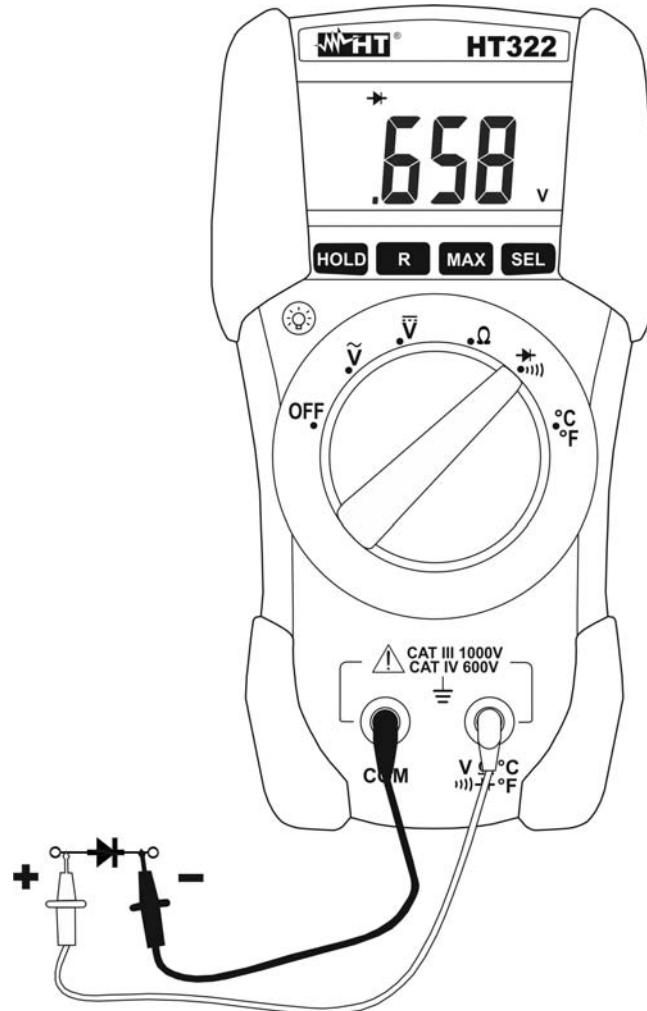

Fig. 5: Using the instrument for Diode test
2. Insert the test leads into the jack, the red plug into  $V\Omega\blacktriangleright|•))$  (for HT321) /  $V\Omega\blacktriangleright|•))\text{ }^{\circ}\text{C}^{\circ}\text{F}$  (for HT322) jack, and black plug into **COM** jack (see Fig. 5)
3. Connect the test leads to the diode under test observing the proper polarities indicated in Fig. 5. The threshold voltage value expressed in mV under this situation is displayed